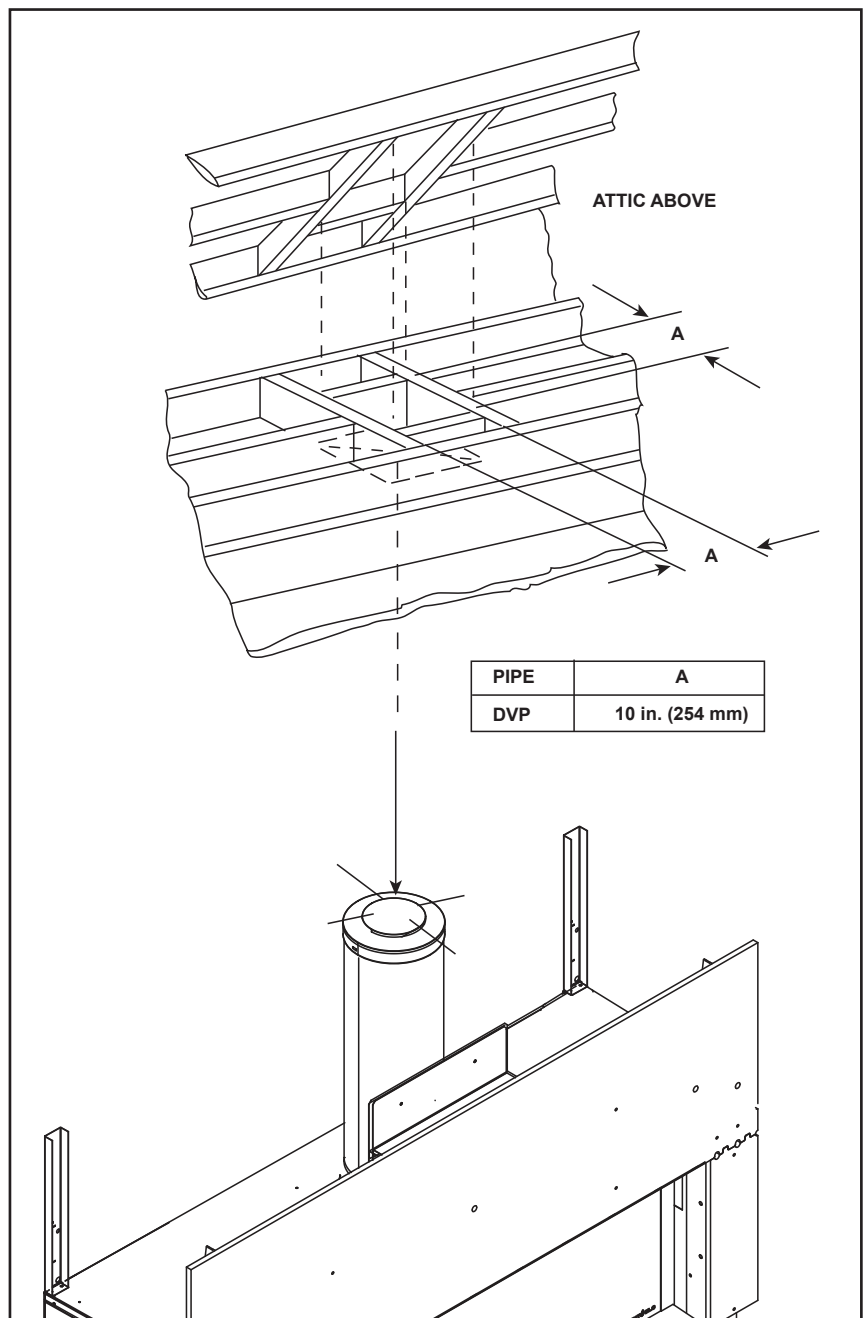

Figure 6.3 Installing Ceiling Firestop
- **DVP pipe only** - Frame an opening 10 in. by 10 in. (254 mm by 254 mm) whenever the vent penetrates a ceiling/floor. See Figure 6.3.